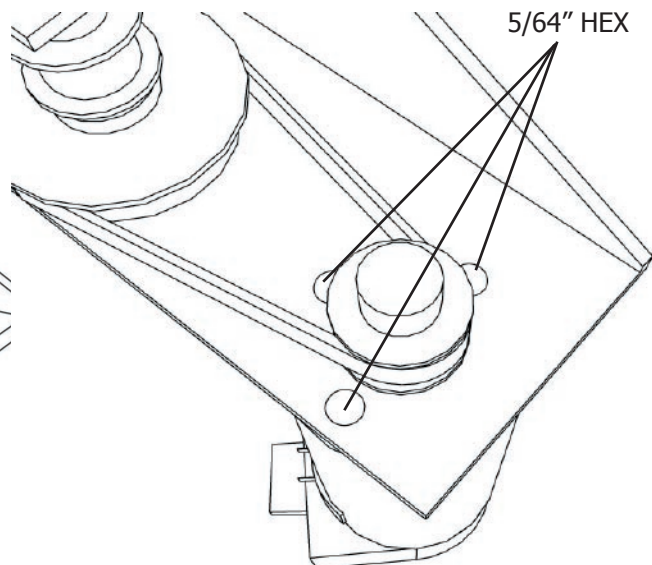

Fig. 5 - Motor mounting screws
- 2) Remove the three (3) 5/64" HEX screws below the motor gear. See Fig. 5